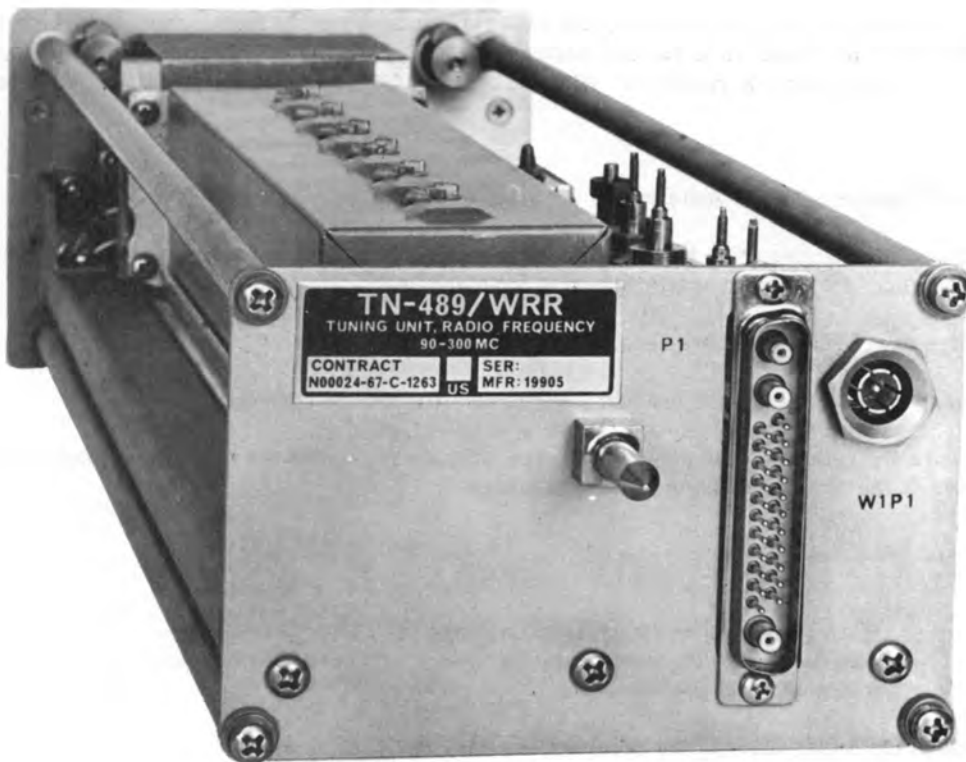

Figure 3-2. Typical Tuning Unit Showing Rear Panel Mating Connectors
- (5) Install the tuning units in the receiver.
- (6) Grasp the plug-in tuning unit and align it with the receiver compartment opening. Install the 30 to 100 mc tuning unit on the left and the 90 to 300 mc tuning unit on the right.
- (7) Push the tuning unit forward into the receiver opening until the rear panel connector, Figure 3-2, is firmly seated in its receiver mating connector.
- (8) Lock the three front panel thumbscrews.
- (9) Connect the power cable to a 115 vac 60 cps power source.